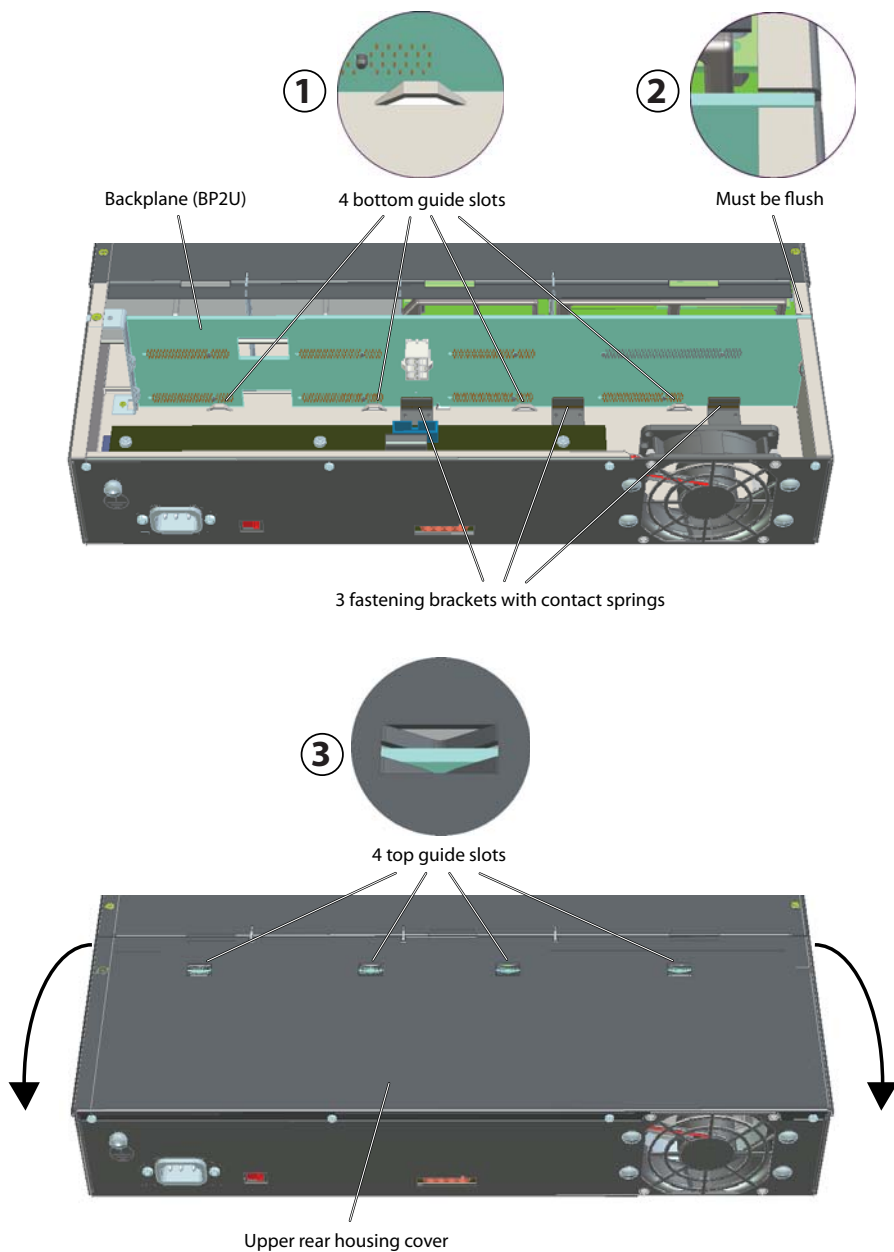

Fig. 20 Correct sitting of backplane BP2U
6. Fit the upper rear housing cover. In so doing follow the instructions on how to ensure that the backplane BP2U sits correctly, on page 94 and the corresponding diagram (Fig. 20).
- Check that the backplane is sitting properly in the 4 lower guide carriages. In any case, you must press down the backplane slightly since the contact springs create a certain counter-pressure behind the mounting brackets (see ① in Fig. 20).
- Check whether the backplane does not protrude from the upper part of the housing (see ② in Fig. 20).
- While closing the upper rear cover, check that the backplane is sitting correctly in the 4 upper guide carriages. It should be possible to close the cover without strain and without bending it (see ③ in Fig. 20).